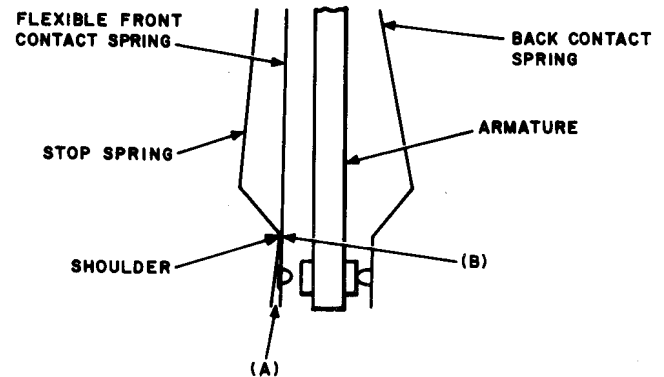

Fig. 8—Contact Follow
2.10 Contact Follow: Fig. 8(A)—(Relays having spring combinations per Fig. 13, 14, and 15 in Table B)
Fig. 8(B)—(Relays equipped with spring combinations per Fig. 13, 14, and 15 in Table B). The flexible front contact spring shall rest against the shoulder of the stop spring with the relay in the unoperated position.